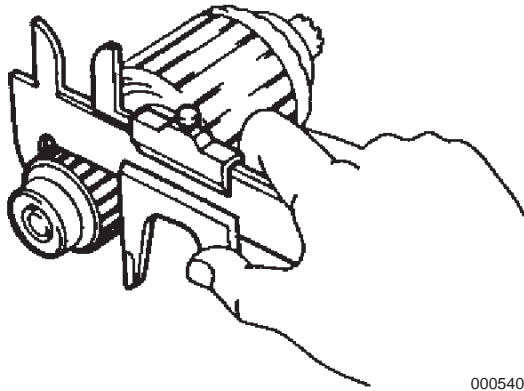

Figure 10-13
6. Measure commutator diameter using calipers (**Figure 10-13**). If the measured value is less than the specified minimum, replace the armature.